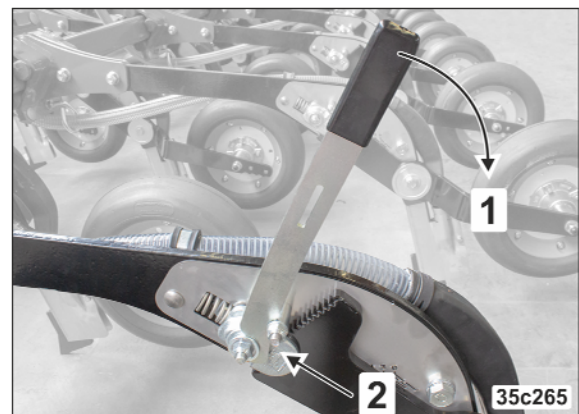

Fig. 175
3. Unlock the setting device using the tool (Fig. 175/2)